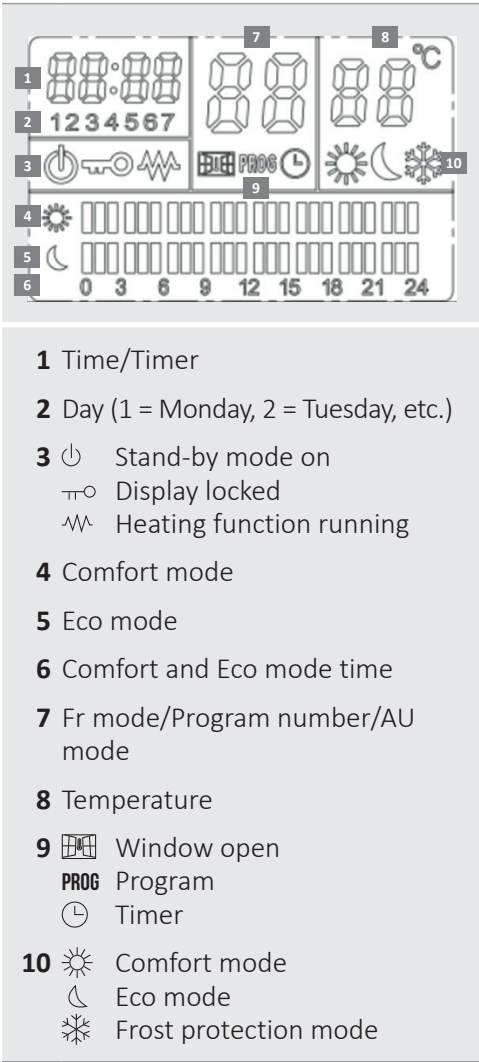

Abb.5c: Displayübersicht
appears in the display indicating that the heating function is active. “Fr” also appears in the display (Fig. 5c, No. 7), thereby indicating the active mode.
Press the **C/M button**, the **hour** begins to flash (Fig. 5c, No. 1) . The hour can be selected with “+” and “-”.
Then press the **C/M button** again. The **minute** now begins to flash (Fig. 5c, No. 1). Also select the current minute here with “+” and “-”.
Then press the **C/M button** again. The **day** (Fig. 5c, No. 2) now begins to flash. Select the current day with “+” and “-”. The scheme here is 1 = Monday, 2 = Tuesday, 3 = Wednesday etc.
Press the **C/M button** and hold this down for 3 seconds. The hour (Fig. 5c, No. 1) sets to 00 and the hour (Fig. 5c, No. 9) appears in the display.
The times are shown with bars (Fig. 5c, No. 4-6). Each bar corresponds to an hour here. If bars are shown at the top and bottom, the appliance is operating in Comfort mode. If only the lower bars are shown, the appliance is operating in Eco mode. If no bars are shown, the appliance is operating in Frost protection mode. You can also read this off based on the characters in the display Fig. 5c, No. 10.
- Keep the **P/PRO** button pressed for 3 seconds until the time in the display 00:00 (Fig. 5c, No. 1) flashes and PROG (Fig. 5C, No. 9) is displayed.